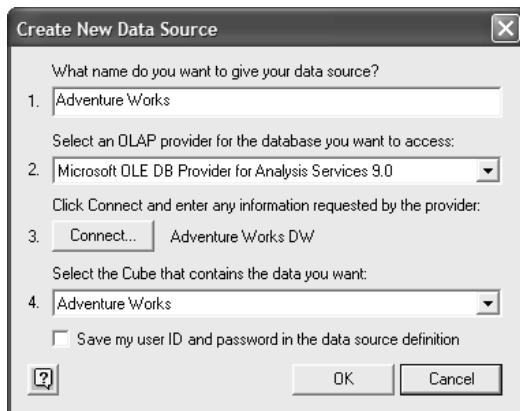

Figure 1.24 Use the Microsoft OLE DB Provider for Analysis Services 9.0 to connect to SSAS 2005.
5. In the *Create New Data Source* dialog, name the data source Adventure Works. In the “Select an OLAP provider for the database you want to access” dropdown select Microsoft OLE DB Provider for Analysis Services 9.0 (see Figure 1.24). Recall that Win32 clients must use version 9.0 of the OLE DB Provider for Analysis Services to connect to SSAS 2005.
7. Expand the last dropdown (Figure 1.24) and select the Adventure Works cube. Click OK to close the *Create New Data Source* dialog and OK to close the *Choose Data Source* dialog. You are back to the PivotTable and PivotChart Wizard. Click Next to advance to Step 3.